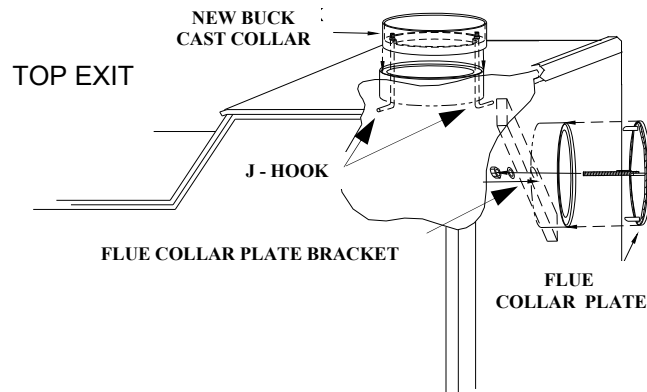

Figure 26.
7. Next fasten New Buck's cast collar Part number MA6CHIMCNB to the flue exit of stove to be used, using the J hook's provided. Position collar with gasket towards the unit, tighten the J hook's **Firmly** . (See Figure 26).